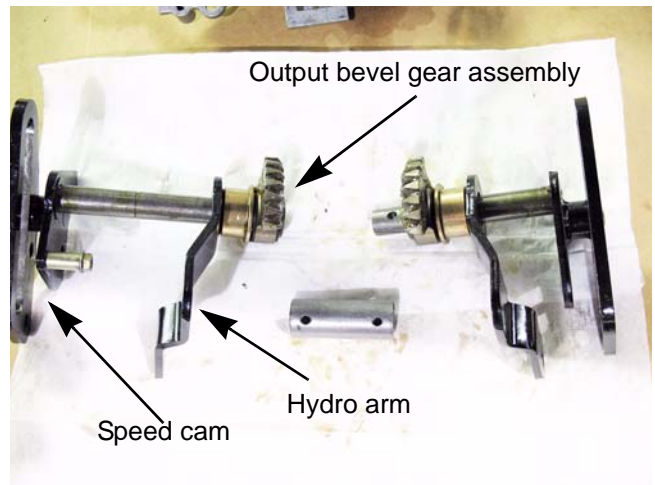

Figure 6.36
10. Slide the output bevel gear assemblies off of the speed cams. See Figure 6.36.